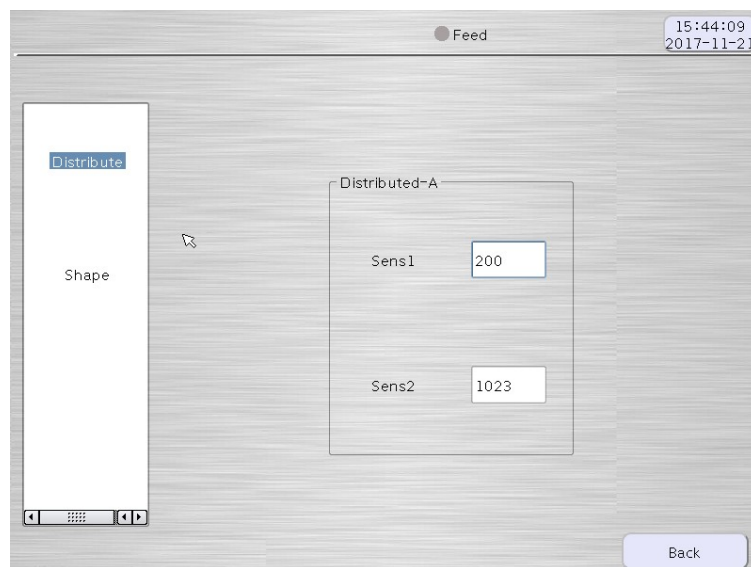

Figure 7-1
- 2) Please refer to the advanced shape settings for the meanings of the shape settings such as Small/Big, Circle/Long and distributions as shown in Figure 7-1.